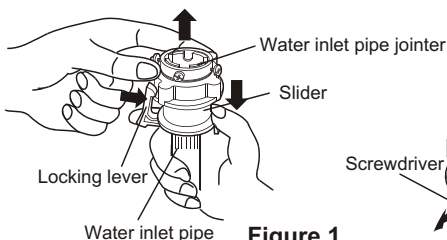

Figure 1
2. Press the lower end of the lock lever and push down the slider. Take off the water inlet hose jointer from the water inlet hose component. See to Figure 1.